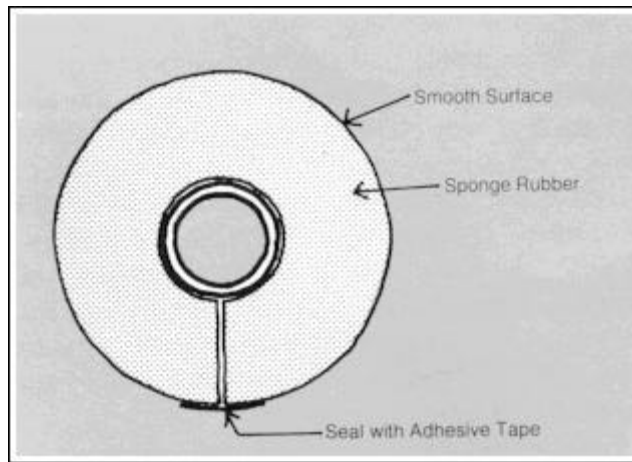

Fig. 4.39 ARMOFLEX or BRADFLEX PIPE INSULATION
- 5.) All pipework should be well insulated. ARMOFLEX (a sponge-rubber sleeve, Fig. 4.39) maybe some what expensive but it is easy to use and its outer surface is waterproof. Other insulation types would need a waterproof wrapping.